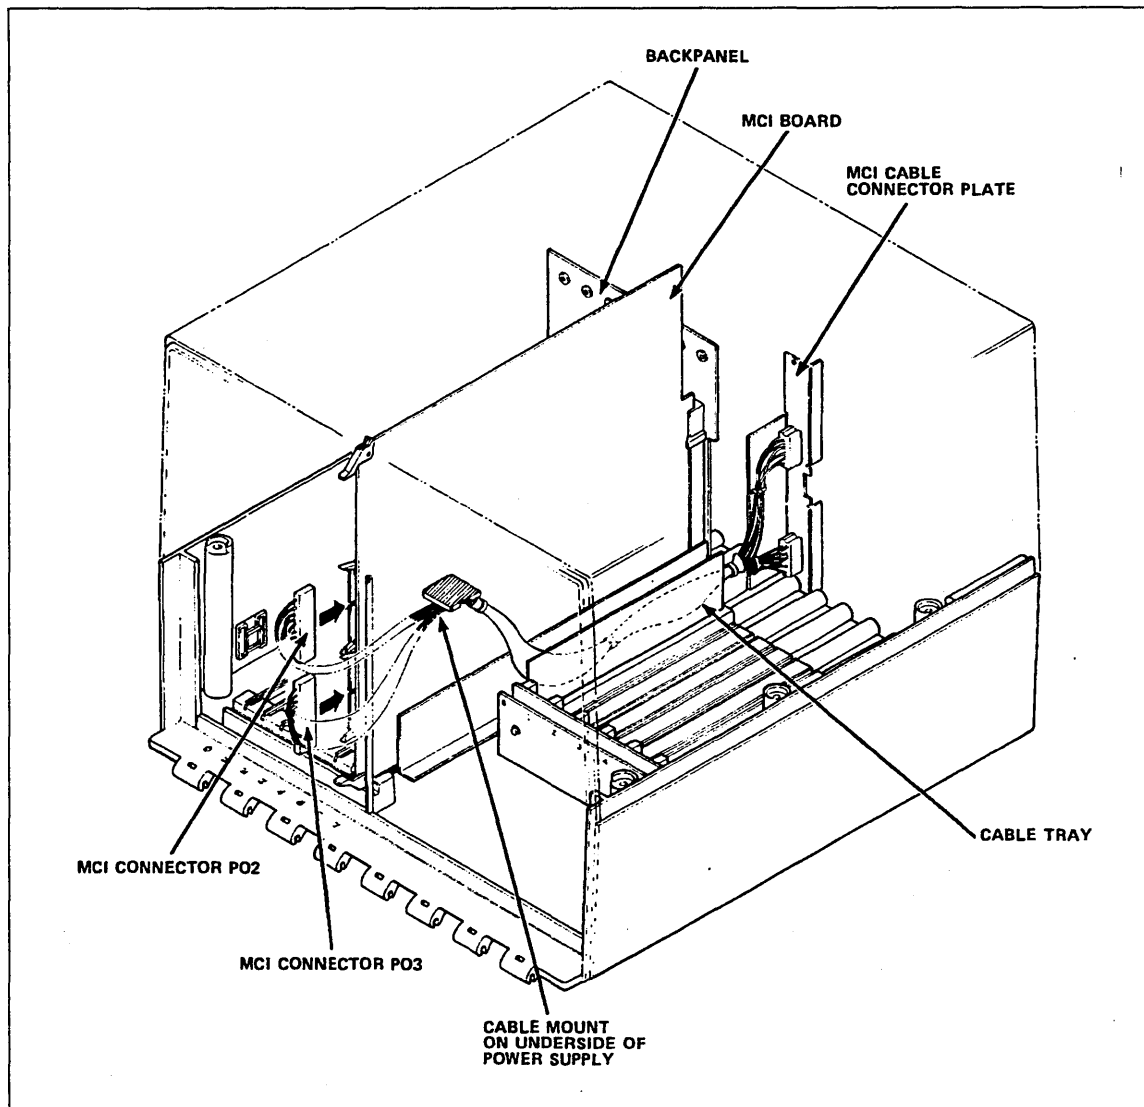

Figure 1-54. MCI Cable Installation
4. Install the MCI cable (refer to figure 1-54). One end of the cable has two connectors that plug into the MCI board. The other end has a connector plate that is installed on the back of the cabinet.